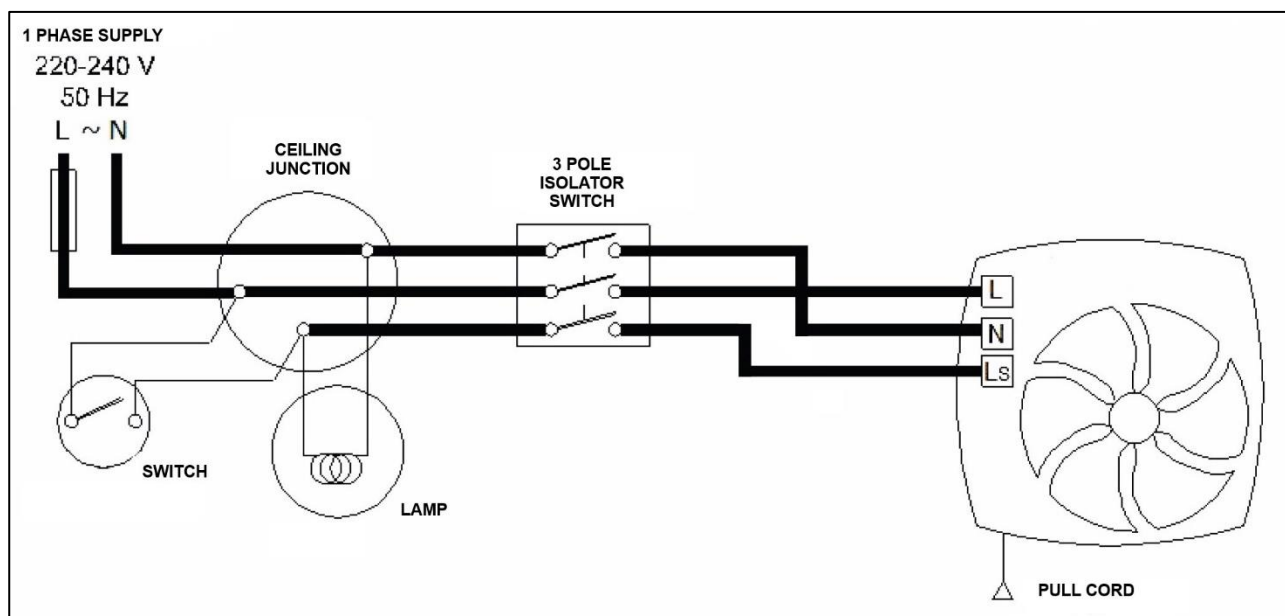

Figure 23
- b. Connection to lamp switch with live “Boost” facility (Figure 23)